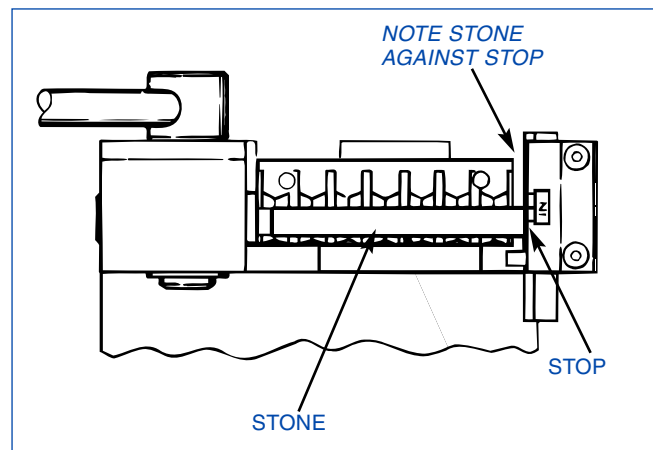

FIGURE 2-5, Install Stone
5. Place Stone in Master Stoneholder (see Figure 2-5). Lugs on stone sides should fit into cross slots of Master Stoneholder.